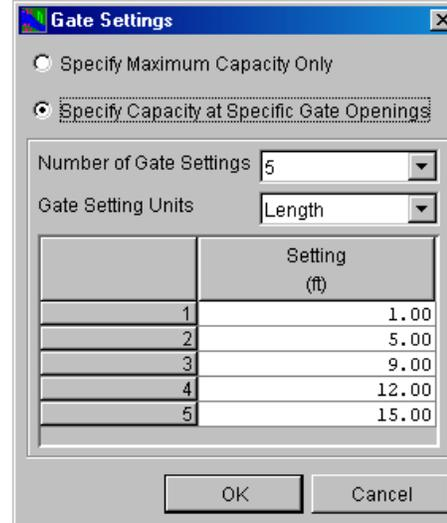

Figure 10.33 Gate Settings Dialog Box
4. Click the **Edit Gate Settings** button to access the **Gate Settings** dialog box (Figure 10.33). Gate settings are sometimes known as “cranks.”